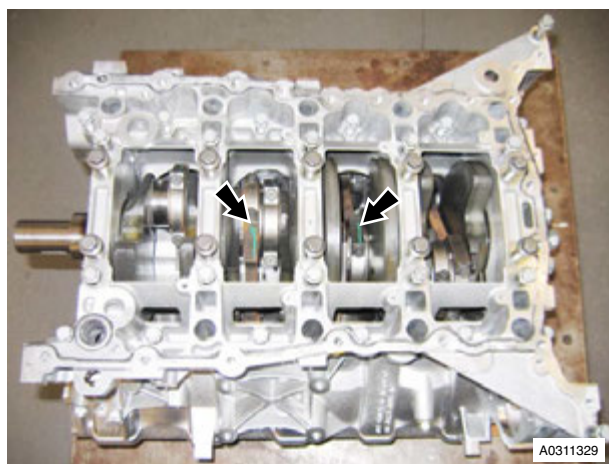

Figure 13
26. Mark bearing caps and connecting rods for correct installation (see Figure 13).